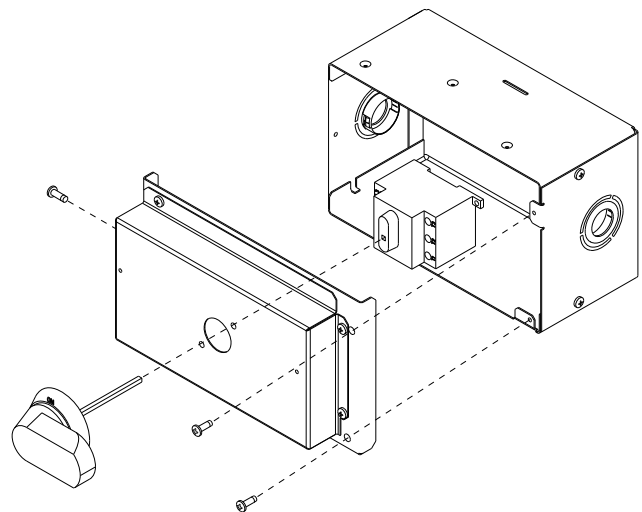

Fig. 20 — NFD Handle and Shaft Assembly
2. Remove (3) cap head screws that secure the NFD enclosure front cover — (2) on the face of the cover and (1) on the left side cover. See Fig. 20.
5. Insert the shaft with the cross pin on the top of the shaft in the horizontal position. See Fig. 20.
10. Secure the handle to the painted cover with (2) screws and lock washers supplied.
11. Engaging the shaft into the handle socket, re-install (3) hex screws on the NFD enclosure.